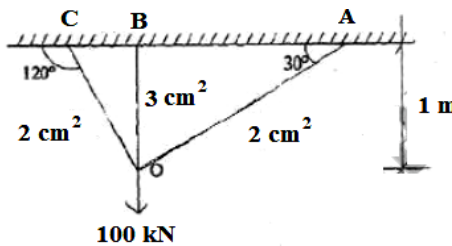

Figure 2
4. Determine the force in the members of the truss as shown in figure 2. Take $E = 200 \text{ GPa}$. [15]